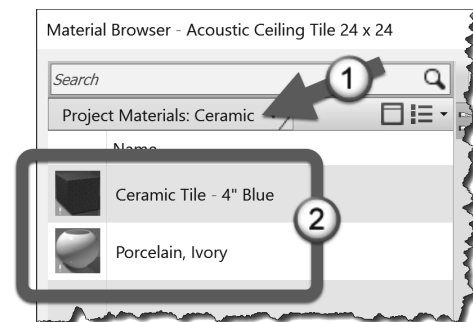

FIGURE 4-4.1 Filter materials by class
2. Filter the material list by *Class Ceramic*; click the down arrow as shown in Figure 4-4.1.